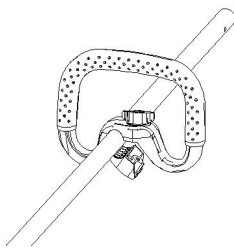

Fig.2
1. Push the loop handle onto the shaft, push the upper and lower parts together, tight the handle by rotating the loop handle knob in clockwise direction (Fig. 2&3).